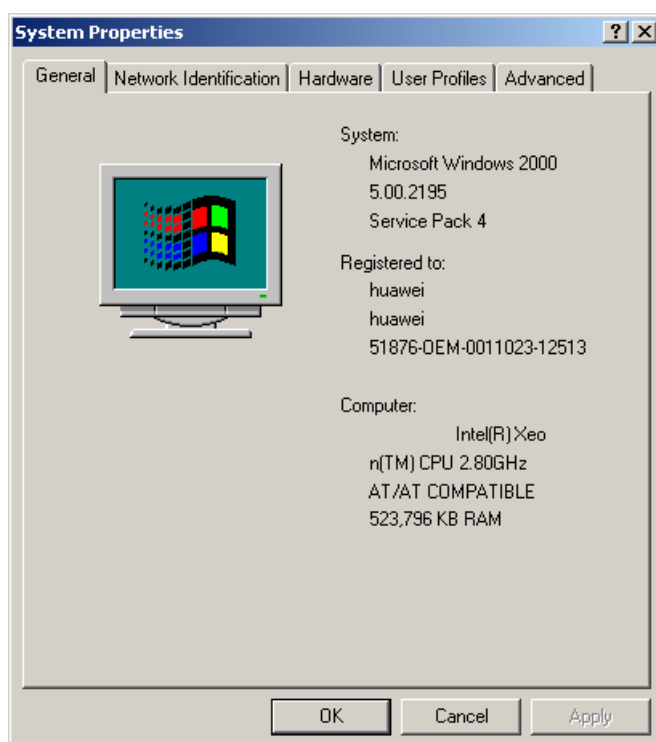

Figure 2-95 [System Properties] dialog box
- 1) At the Windows 2000 Server desktop, right-click the My Computer icon. Select [Properties] from the shortcut menu. The [System Properties] dialog box is displayed, as shown in Figure 2-95.